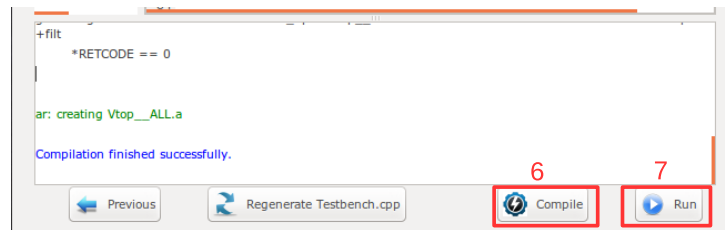

Figure 5.20: Verilator compilation successful snapshot.
6. Press Compile button to generate the executable binary file. If the file is generated successfully you must see the "compilation finished successfully" message as shown in Figure 5.20.